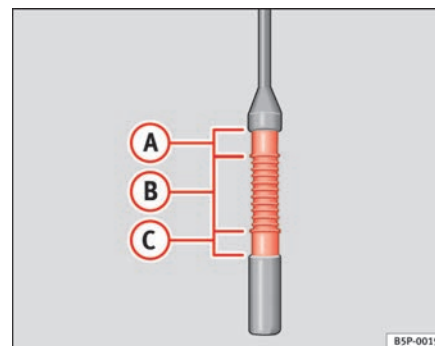

Fig. 158 Engine oil dipstick.
- Then pull it out once more and check the oil level ⇒ page 219, fig. 158. Top up with engine oil if necessary.